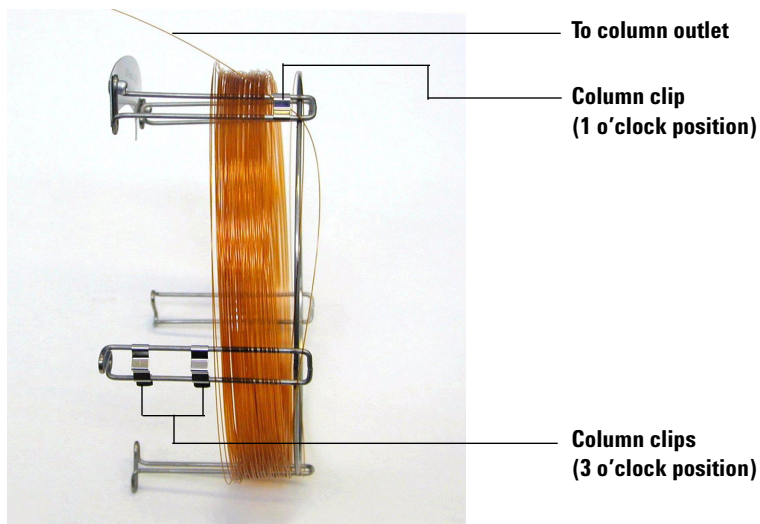

Figure 5 Column fed through 1 o'clock position
- 4 Feed the outlet side of the column through the 1 o'clock positioned clip so that the column outlet is pointing toward the front of the column cage. See Figure 5.